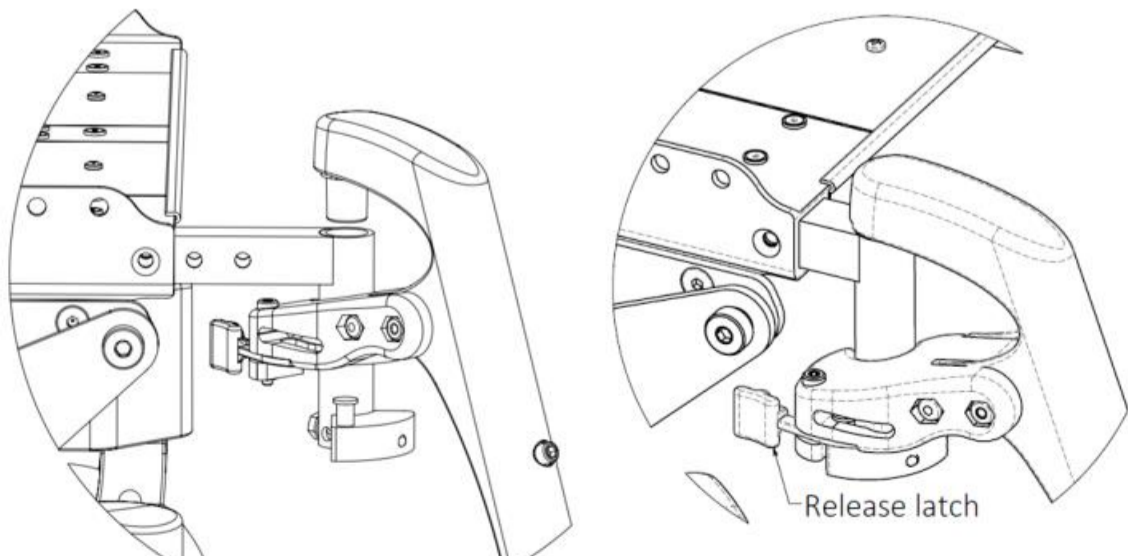

Figure 14.13: Swing-Away Front Rigging Latch Installation and Removal
- a. Orient the footrest at approximately 45° outboard of the wheelchair as shown in figure 14.13
- f. To release the locking mechanism, push the release lever as show in figure 14.13